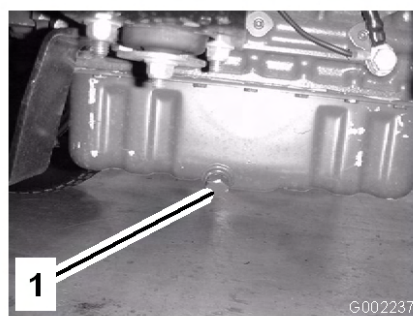

Figure 40
5. Remove the drain plug (Figure 40).